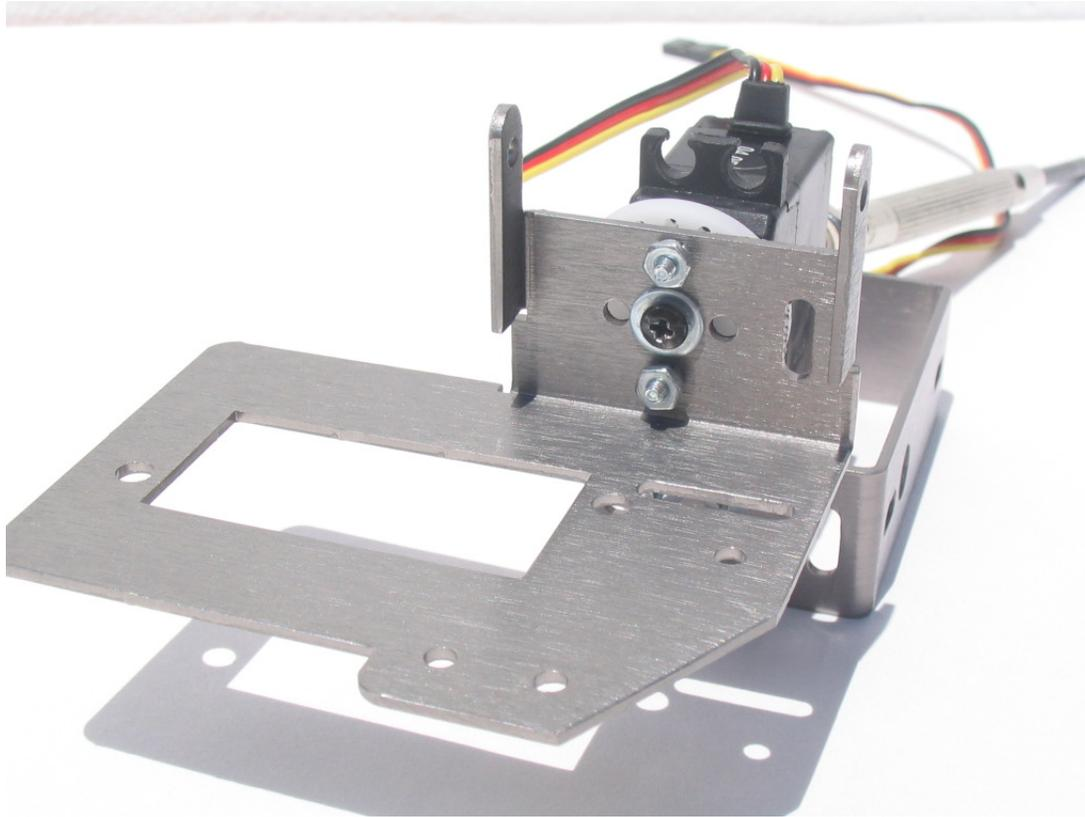

Figure 7
6. Using (1) #4 washer and lock washer, install the servo arm screw as shown in figure 7. The washer should be installed first followed by the lock washer and then the screw.(The palm servo is not being shown for clarity)